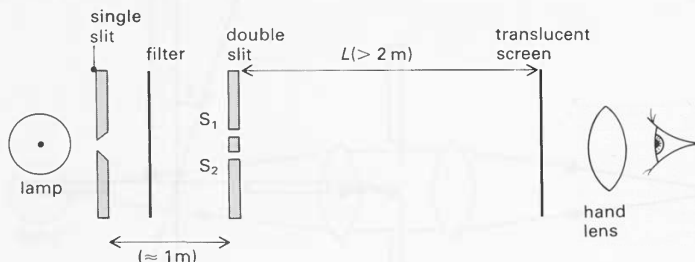

Figure J76
- ii The single slit is moved sideways in the plane of the diagram (figure J76).